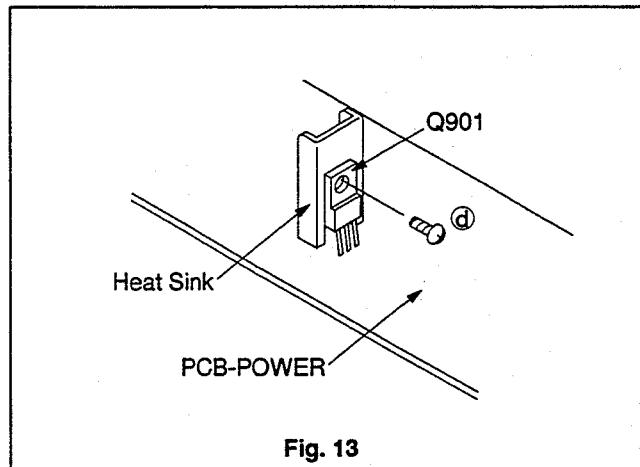

Fig. 13
2. Remove the one fastening screw (Ⓒ) shown in Fig. 13.